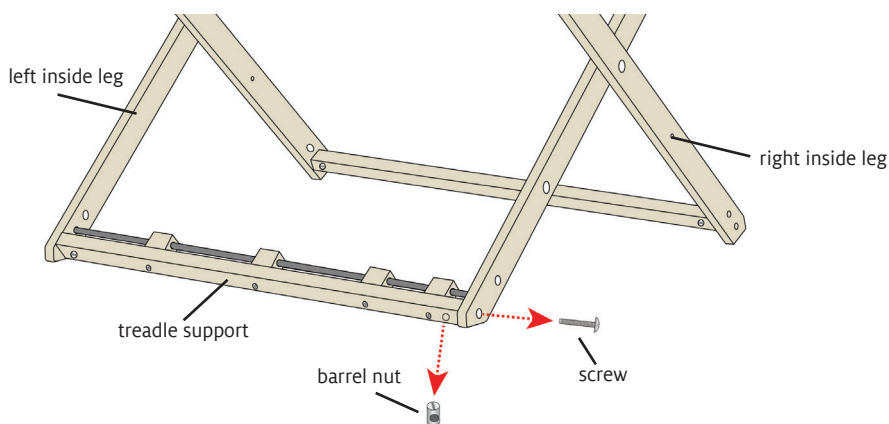

FIGURE 13: REMOVE TREADLE SUPPORT HARDWARE
17. Begin at the right inside leg. Remove the machine screw and barrel nut holding the treadle support to the leg, as shown in Figure 13. Save the barrel nut for step 19.